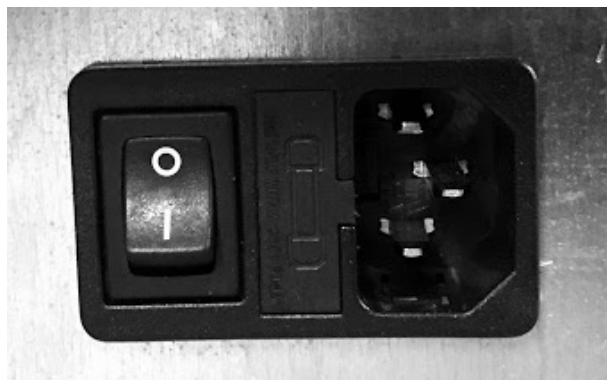

Fig. 75 - Electric socket with master switch
- Connect the supply cable first on the back of the stove (see **Fig. 75**) and then at a wall electric socket.
- The master switch O/I (see **Fig. 75**) is to open only to switch the stove on, otherwise it is advisable to keep it off.